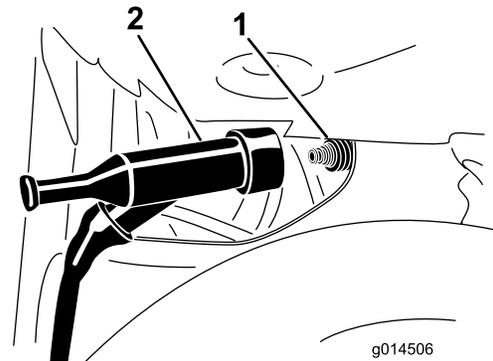

Figure 47
- Pull the spark-plug wire off the terminal of the spark plug (Figure 47).
4. Push the spark-plug wire onto the terminal of the spark plug (Figure 47).